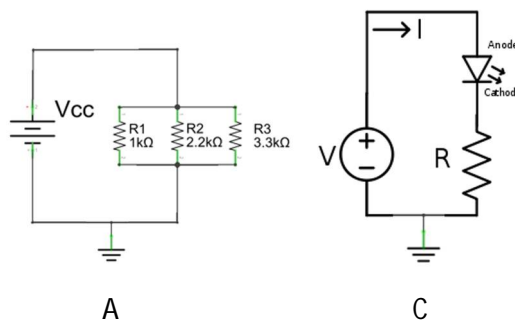

Figure 1: Circuit diagrams for 2.3.1.a (pre-lab theory) and 2.3.1.b (lab exercises).
**In advance of your first Module 2 lab session**, please complete the following exercises 2.3.1.a.1-3 that practice the circuit analysis and design concepts from the lectures. **Complete these in your lab notebook, including any relevant diagrams, and clearly label outputs/results** so that you can use them in lab and so that the TAs can check your work. You will use the results from these exercises during the lab. Please refer to Figure 1.